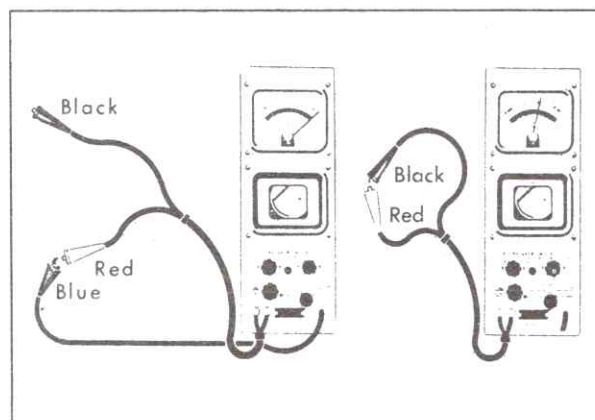

Fig. 6-26 Calibrating Coil Tester
2. Connect blue ground and red primary leads together as shown in Fig. 6-26.
10. Connect red and blue leads of Coil Tester Unit together as shown in Fig. 6-26, and, using "Dwell-Ohm" regulator, adjust meter needle to set line.